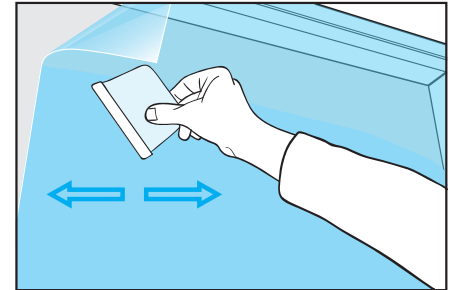

Figure 01
- › Apply with the help of the squeegee (previously covered with felt), held at an angle of 45° between the surface of the squeegee and the vinyl. Move the squeegee from the centre towards the edges of the vinyl. (FIG. 01)